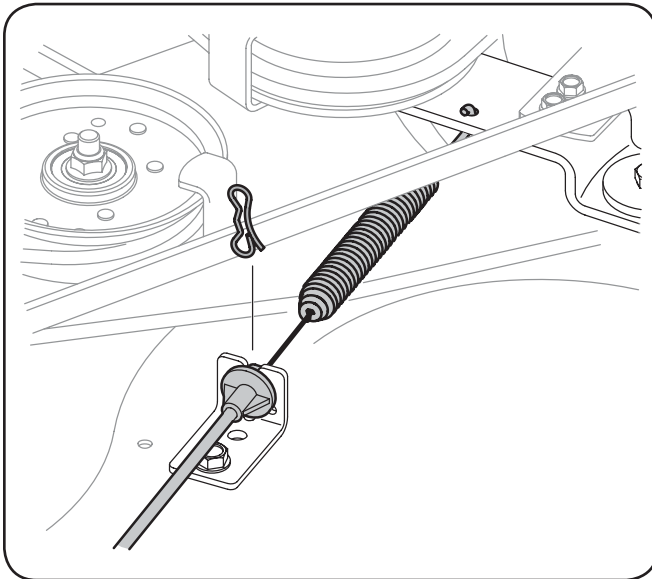

Figure 7-4 - Models with manual PTO only.
9. For models with manual PTO, carefully remove the deck engage cable from the rear of the cutting deck by removing the bow-tie cotter clip that secures it. Remove the spring from the deck idler bracket. See Fig. 7-4.
- c. Reattach the deck engage cable. See Fig. 7-4.